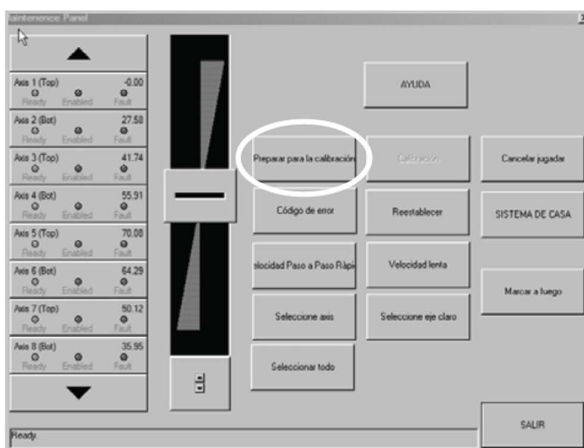

FIGURE 53
- Step 3: Click Prepare for Calibration. (Figure 53).